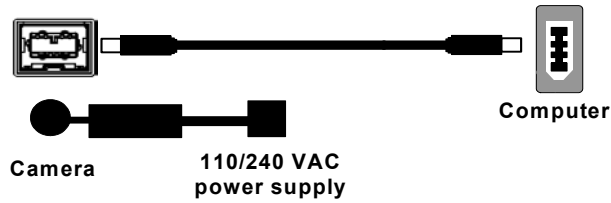

Figure 4 — FireWire and External Power Supply Connection
In most cases, the FireWire cable provides the necessary power required by the Retiga-2000RV. However, if your camera is cooled you will need to provide additional power to the camera as shown in Figure 4
- In order to obtain the cooling specification of the camera, the supplied external power adapter needs to be connected to the camera as shown in Figure 4 below.
- If you have a laptop computer, you can use the built in FireWire port or a PCMCIA card. However, should you connect to a laptop computer you will still be required to connect the supplied external power supply to the camera in order to power it (see Figure 4). Optional powering of the PCMCIA card will not be required in this configuration